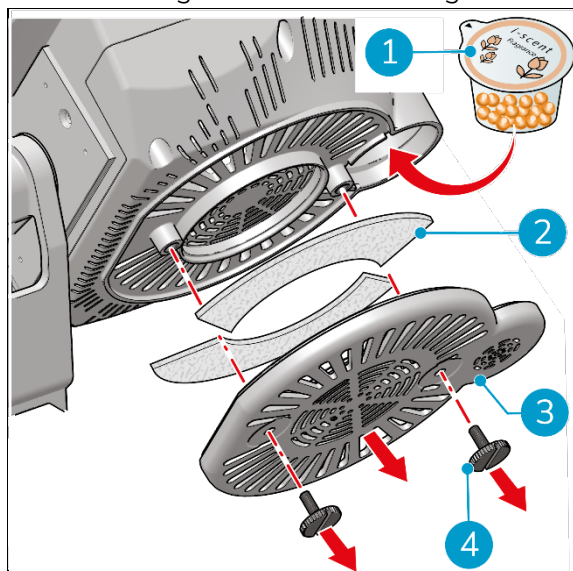

Figure 13
2. Remove the two black bolts from the bottom of the motor (Figure 13, pos ?).
4. Place the i-scent in the designated space and peel off the plastic cover (Figure 13, pos ?).